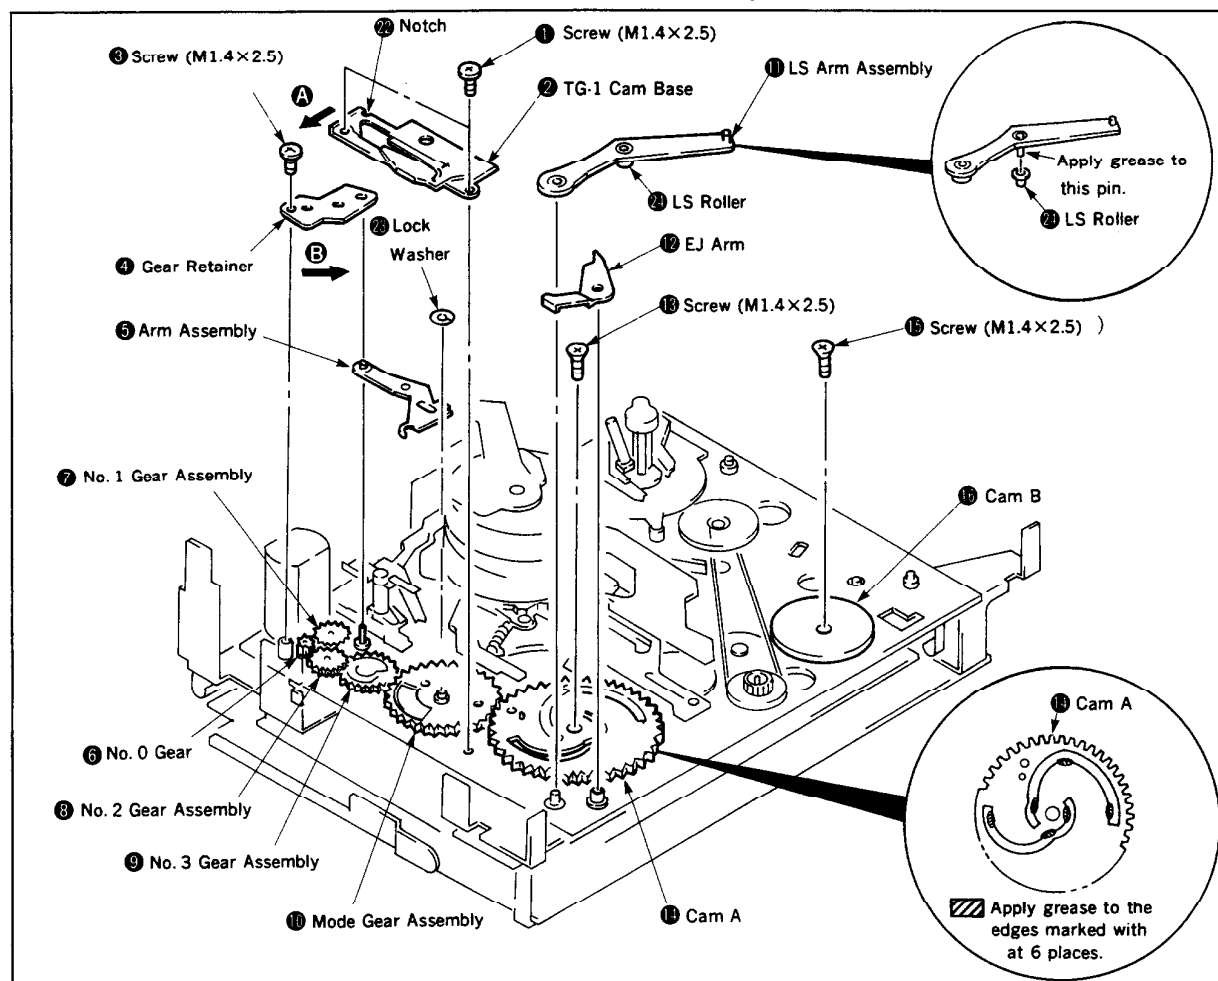
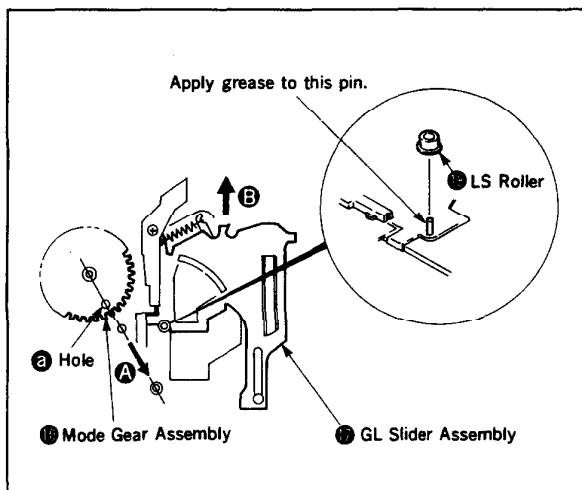

Fig. 29
Fig. 30
3-15 PHASE ADJUSTMENT(Fig. 29)
- 1) Face the hole ① of the mode gear assembly ⑫ to a direction of the arrow A, move the GL slider assembly ⑬ in a direction of the arrow B, apply molyton grease to the pin of the GL slider assembly ⑬, and mount the LS roller ⑬. (Fig. 30)
- 10) Seeing to it that the EJ arm ⑮ and the LS roller ⑬ of the LS arm assembly ⑭ are put in the groove ④ of the cam A ⑰, mount them in that order. (Fig. 29 and Fig. 30)